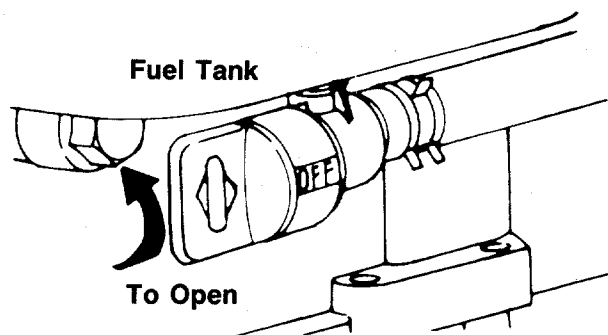

FIGURE 23.—Models 446R, 449R, 456R and 459R
2. Models 446R, 449R, 456R and 459R only: Open fuel shut-off valve. See figure 23.